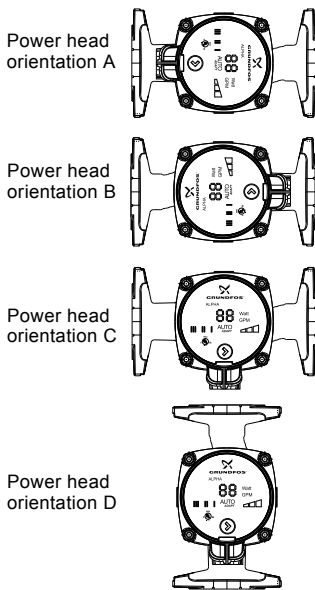

Fig. 3 Changing the power head position
The power head can be rotated in steps of 90°. Review fig. 3 for possible/ permissible positions.
2. Loosen 4mm screws and turn the pump head to desired position; see fig. 3.